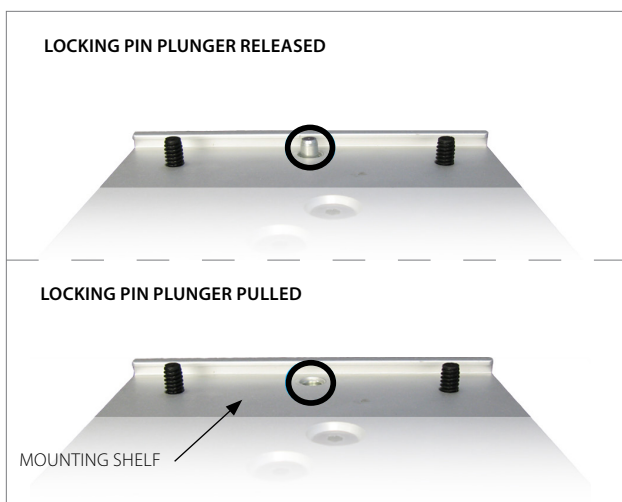

Figure 2
2. Loosen the 4x *PLASTIC SCREWS* on the bottom side of the *MOUNTING SHELF*. Pull down on the *LOCKING PIN* at the bottom of the *MOUNTING SHELF* and twist it to keep it open. Slide the *EFFICIA MOUNTING PLATE* laterally onto the *MOUNTING SHELF* until the *LOCKING PIN* aligns with the clearance hole at the front of the *EFFICIA MOUNTING PLATE* (Figure 2).